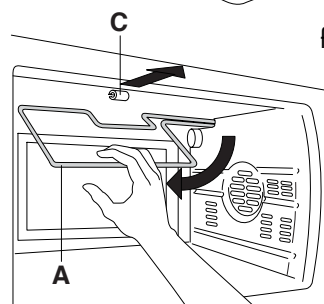

fig. 12
To make the inside ceiling of the oven easier to clean, the top heating element (A) needs to be lowered by pulling the heating element hook towards the door (C) (see Figures 12 and 13).